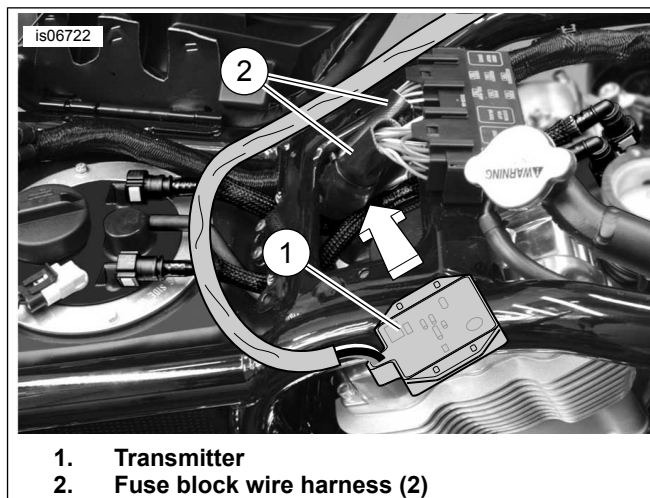

Figure 13. Transmitter Mounting (2004 and Later V-Rod)
2. See Figure 13. Remove the air box cover. Rotate the transmitter (1) so the exposed circuit side faces up. Tuck the transmitter under the fuse block wire harnesses. Use two cable straps from the kit through the flanges of the transmitter to secure the transmitter to the fuse block harnesses. Proceed to the **Harness Connection** section.